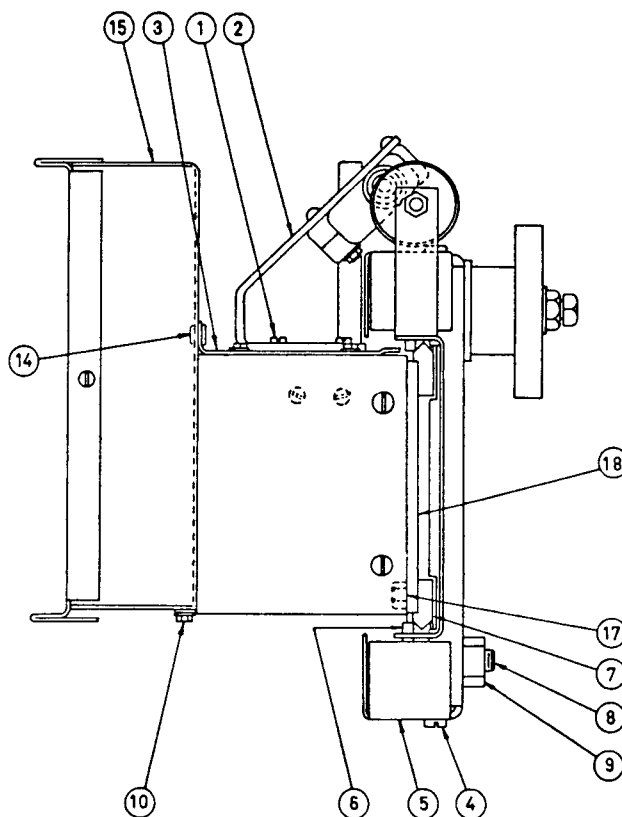

Figure 3
2. *“V” tracks and bearings* — Clean, inspect and re-lubricate twice a year (more often under severe duty applications) as follows (see Figure 3):